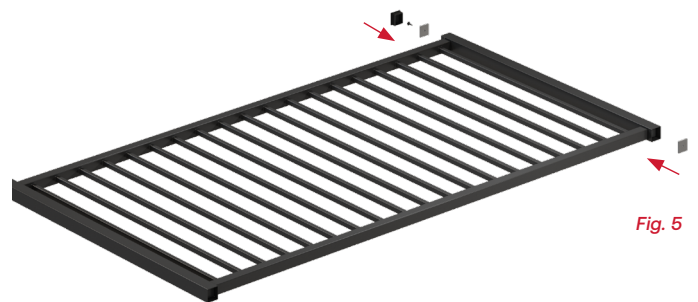

Fig. 5
2. Insert the retaining clips into the stile and screw into place through the inserted rails with the tek screws. *Fig. 5*